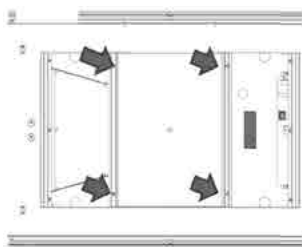

FIG.13
- › Unscrew the four screws shown in Fig.13.